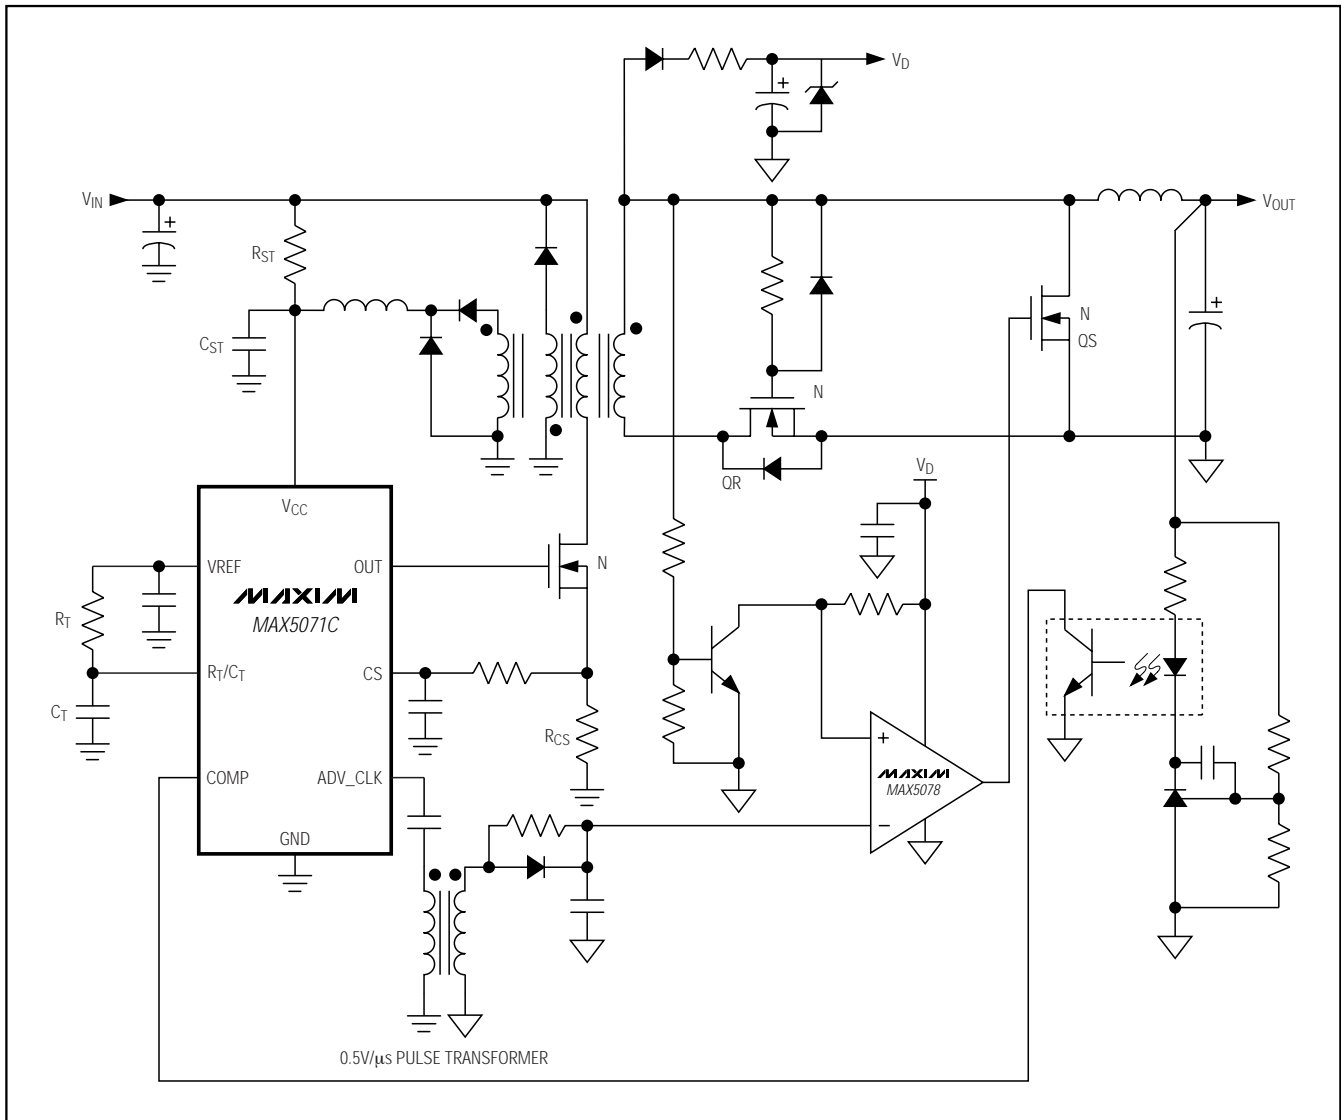

Figure 8. MAX5071C Typical Application Circuit (Isolated Forward with Secondary-Side Synchronous Rectification)
ADV\_CLK is an advanced pulse output provided to facilitate the easy implementation of secondary-side synchronous rectification using the MAX5071C. The ADV\_CLK pulse width is 85ns (typically) with its rising edge leading the rising edge of OUT by 110ns. Use this leading pulse to turn off the secondary-side synchronous-rectifier MOSFET (OS) before the voltage appears on the secondary (see Figure 8). Turning off the secondary-side synchronous MOSFET earlier avoids the shorting of the secondary in the forward converter. The ADV\_CLK pulse can be propagated to the secondary side using a pulse transformer or high-speed optocoupler. The 85ns pulse, with 3V drive voltage (10mA source), significantly reduces the volt-second requirement of the pulse transformer and the advanced pulse alleviates the need for a high-speed optocoupler.